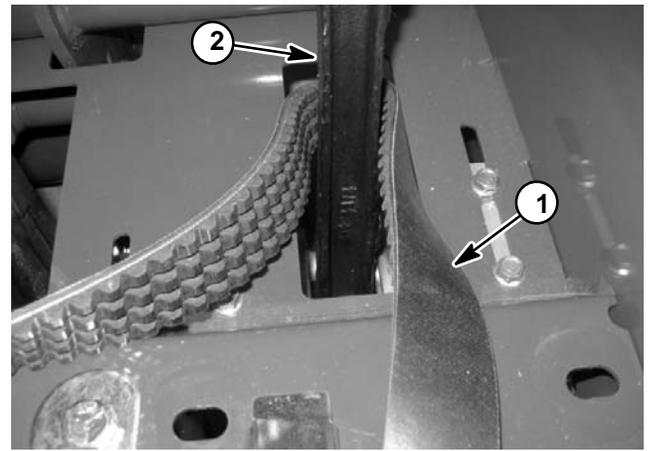

Figure 24
7. Loosen and remove two (2) flange nuts and hardened D washers that secure rotolink damper for #1 stomper arm (see Rotolink Damper Disassembly in this section). Lower rotolink damper from coring head frame.
9. Route drive belt down through coring head frame and around lower end of #1 stomper arm to remove coring head drive belt from machine (Fig. 24 and 25).
1. Route drive belt around lower end of #1 stomper arm and up through coring head frame (Fig. 24 and 25).